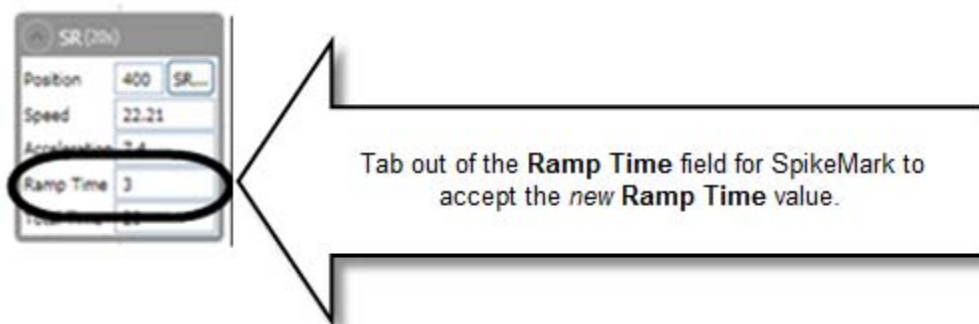

Figure 225
3. Select and change the **Ramp Time** value and press the **Tab** key (Figure 225).